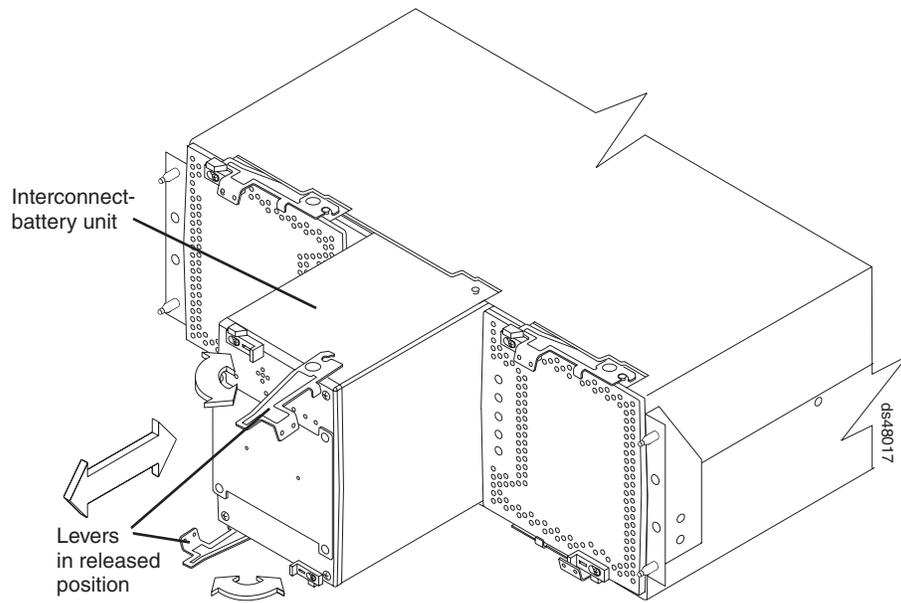

Figure 22. Replacing the interconnect-battery unit
2. Replace the interconnect-battery unit. Figure 22 on page 39 shows the location of the interconnect-battery unit and the interconnect-battery unit levers. The interconnect-battery unit is keyed to always fit into the enclosure in the proper orientation. A large pin located on the back of the component prevents the component from being installed incorrectly. Before installing the component, turn the component so that the LEDs are near the top of the component.